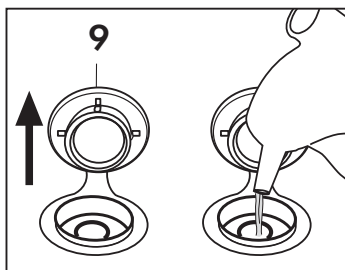

Fig. 7
Open the water fill cap (9) by hand; turn the bottle upside down with the top over the boiler hole and empty the contents of the bottle into the boiler. When the tank is full, close the cap (9) (**Fig. 7**)